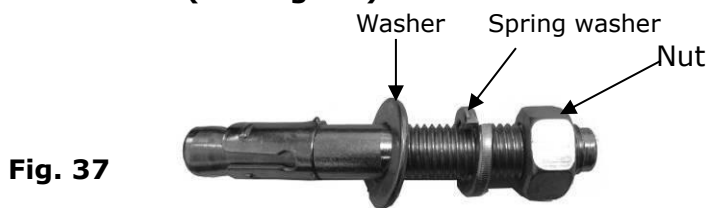

Fig. 37
1. Prepare the anchor bolts (See Fig. 37).